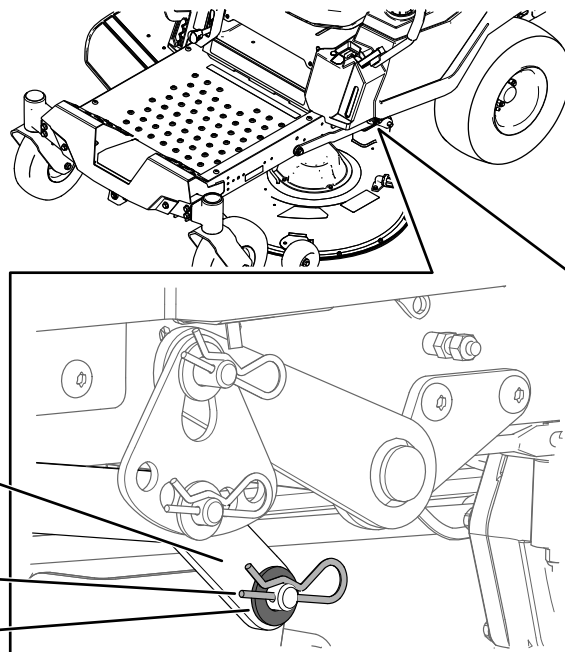

Figure 72
6. On 1 side of the machine, remove the washer and hairpin cotter from the deck pin (Figure 72).
7. Remove the lift arm from the deck pin (Figure 72).
5. On 1 side of the machine, lift the rear of the mower deck and install the lift arm to the deck pin (Figure 72).
6. Install the lift arm using the washer and hairpin cotter (Figure 72).